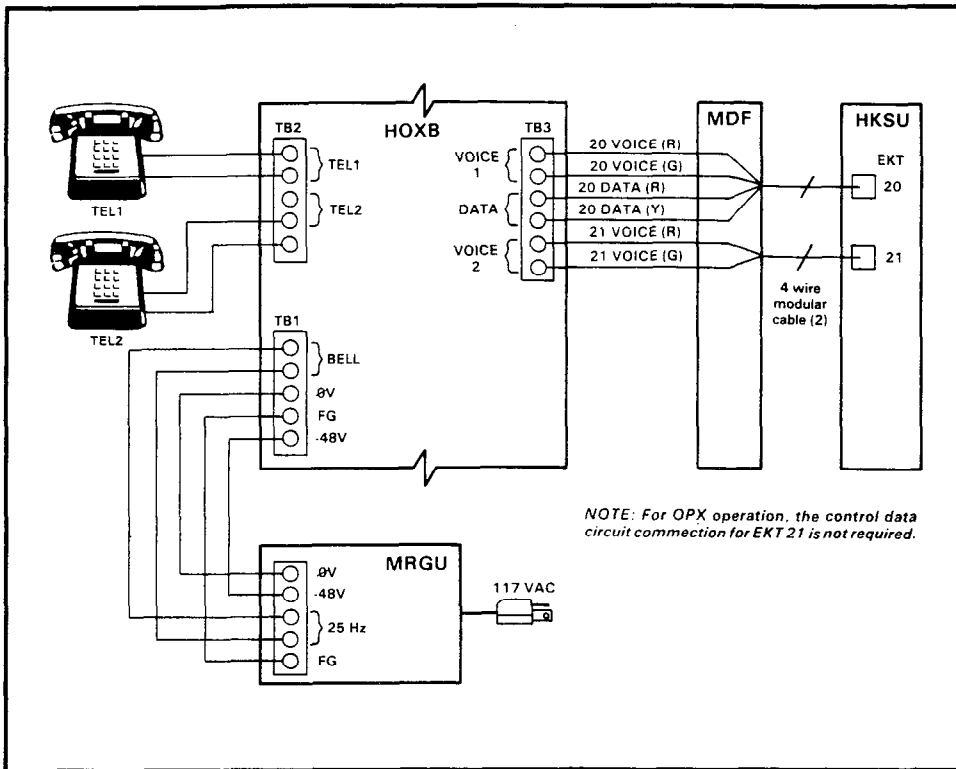

FIGURE 19—HOXB WIRING
06.51 Three types of wiring arrangements are necessary for off-premise extension/conventional single-line telephone (OPX) connections: HOXB-to-HKSU, HOXB-to-MRGU and HOXB-to-conventional, single-line telephones. See Figure 19.